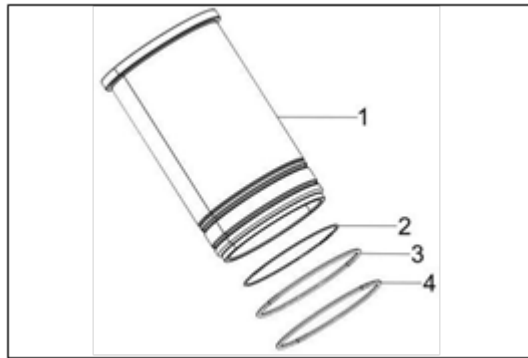

Figure 103.
4. Disassemble the O-rings from the cylinder liner (Figure 103).